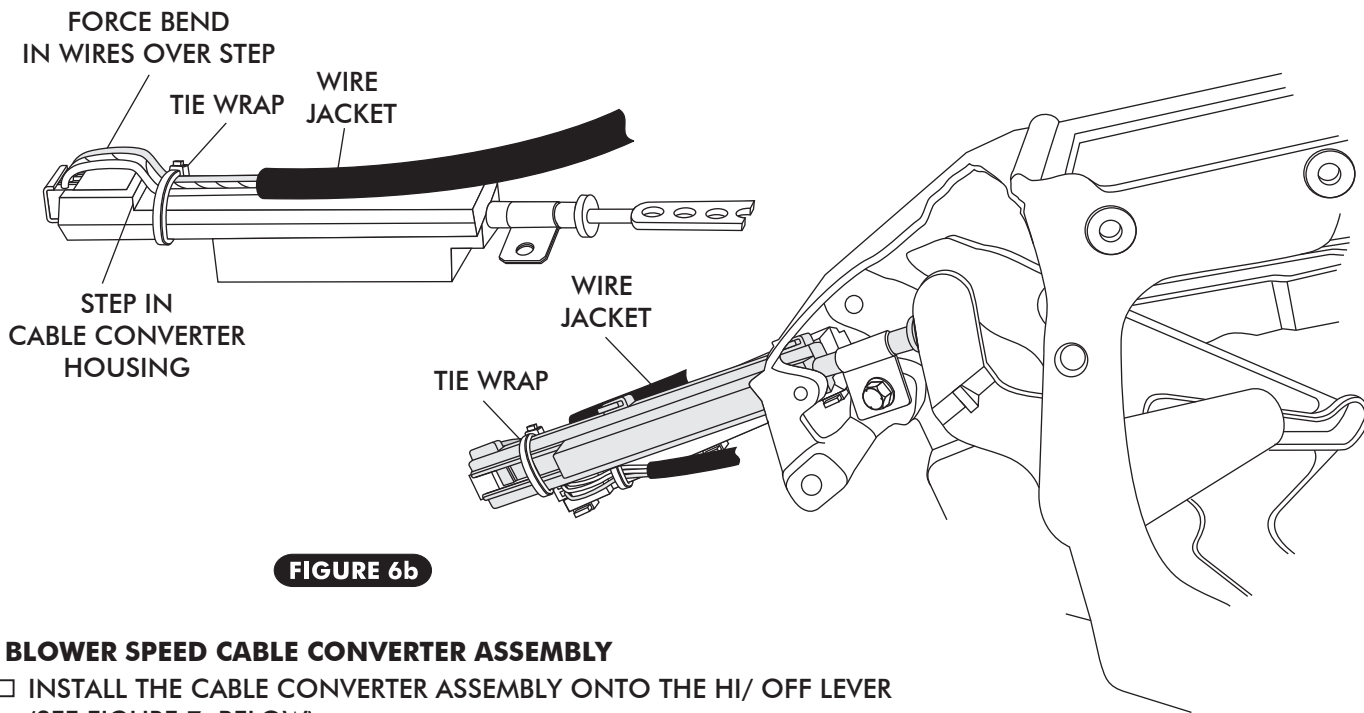

FIGURE 6b
- ONCE THE CONNECTOR IS CORRECTLY PLUGGED INTO THE CABLE CONVERTER ASSEMBLY, SECURE THE WIRES TO THE CABLE CONVERTER ASSEMBLY USING ONE OF THE SUPPLIED TIE WRAPS (SEE FIGURE 6b, BELOW). THE TIE WRAP MUST BE LOCATED BETWEEN THE END OF THE WIRE JACKET AND THE STEP IN THE CABLE CONVERTER HOUSING, FORCING A BEND IN EACH WIRE AS IT PASSES OVER THE STEP IN THE CABLE CONVERTER HOUSING. THE HEAD OF THE TIE WRAP MUST FALL ON THE EDGE OF HOUSING TO REMAIN TIGHT. ENSURE THAT THE TIE WRAP IS TIGHT ENOUGH THAT THE WIRES CANNOT MOVE (SEE FIGURE 6b, BELOW).